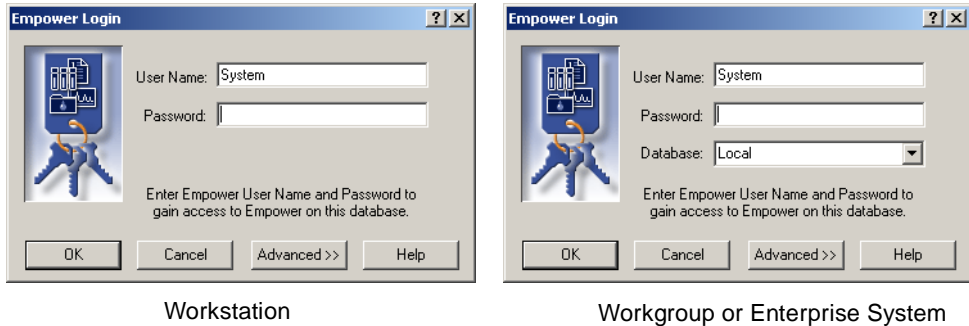

Figure 3-1 Empower Login Dialog Box
2. To start Empower software, select **Start > Programs** (for Windows XP, **All Programs > Empower > Empower Login**). The Empower Login dialog box appears (Figure 3-1).